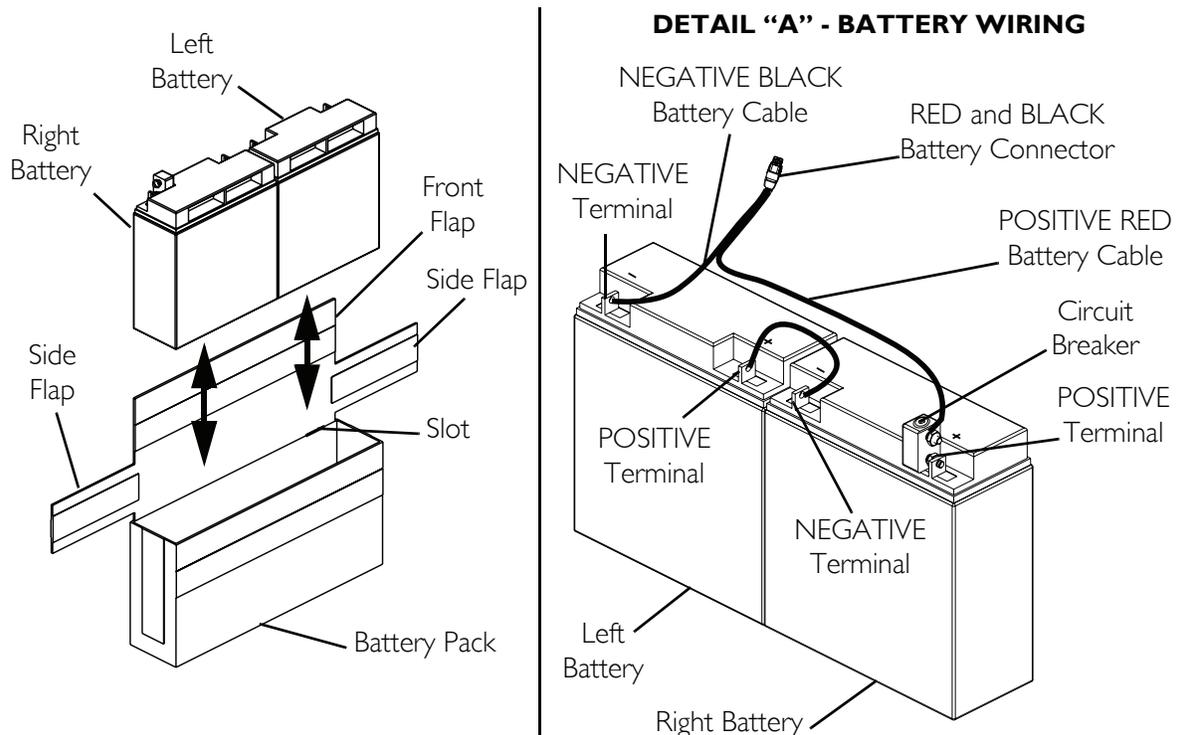

FIGURE 8.4 Removing/Installing the Batteries From/Into the At'm Battery Pack
NOTE: For this procedure, refer to FIGURE 8.4.
1. Install the batteries into the battery pack in the orientation shown in FIGURE 8.4.